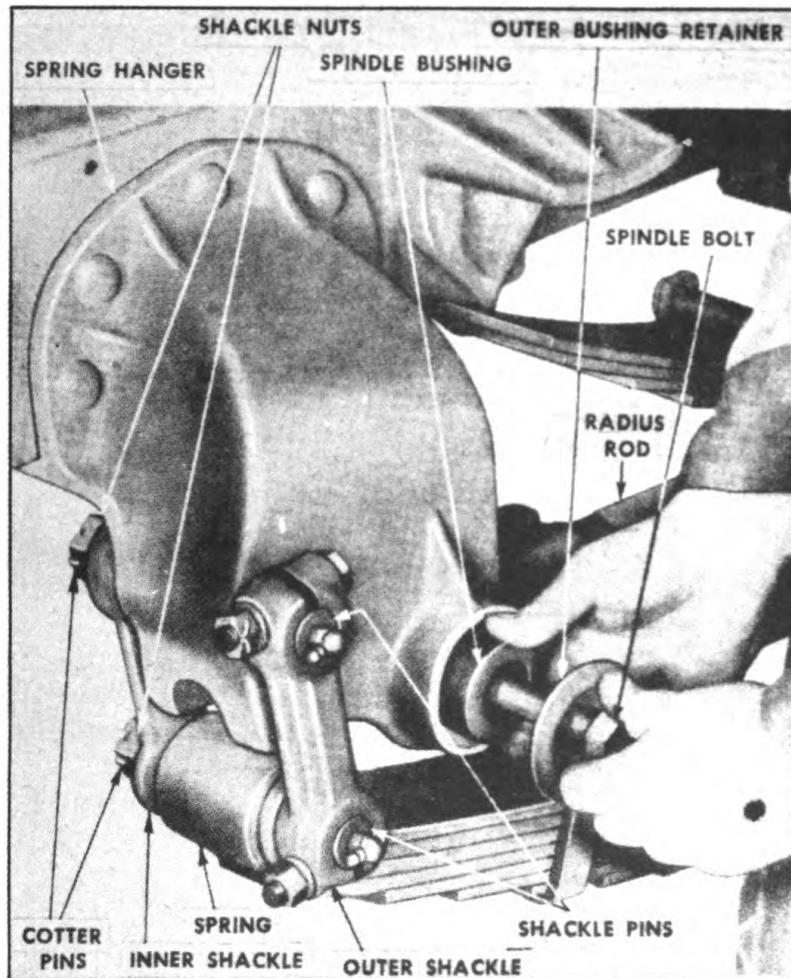

FIGURE 54. REMOVING SPRING HANGER
5. **SPRING HANGERS (Figure 54).**—*a.* NOTE: When replacing spring hangers or auxiliary spring brackets disconnect converter gear from semi-trailer.
*c.* **Removal, front hanger (Figure 54).**—(1) Remove outer and inner wheels on both sides. With wheels removed the hanger is much more easily worked on, especially when rivets are being driven.
(2) Turn gear over and rest it on three horses, two at rear lengthwise and one at front crosswise of frame.
(3) Disconnect radius rod at front end only (Figure 54).